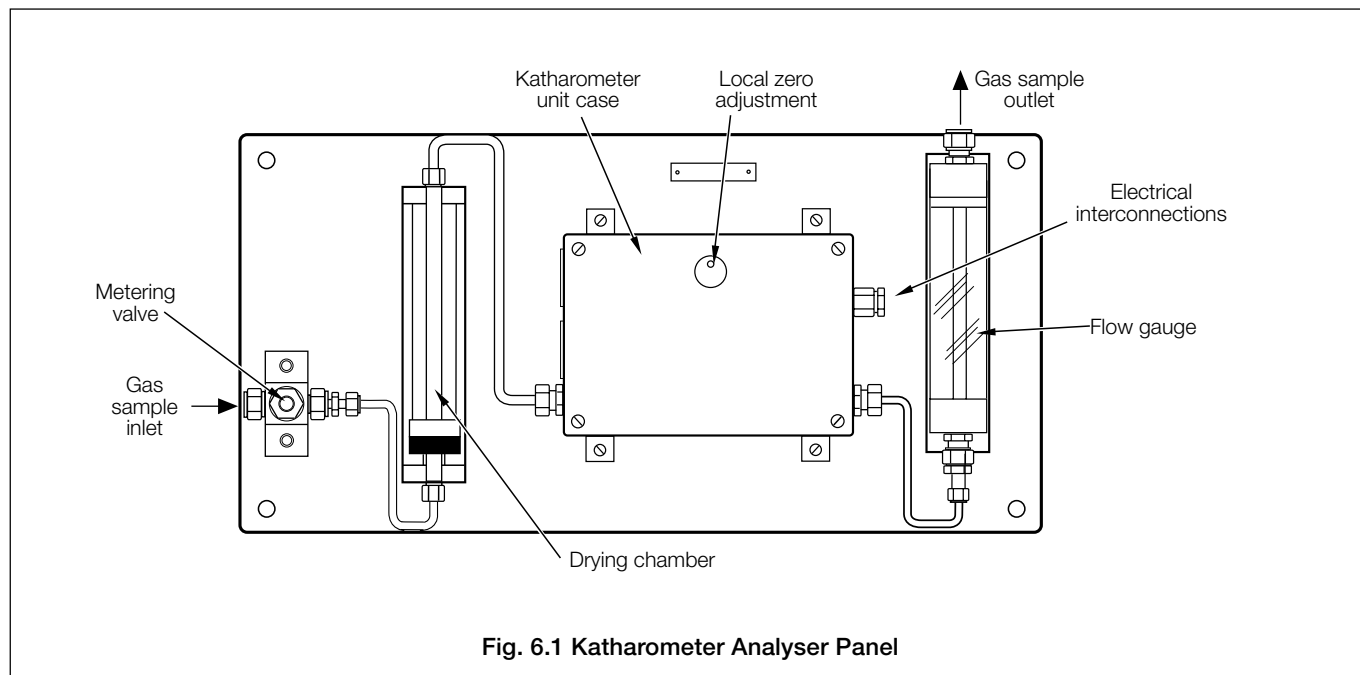

Fig. 6.1 Katharometer Analyser Panel
6.1 Katharometer Analyser Panel – Filling the Drying Chamber – Fig. 6.1